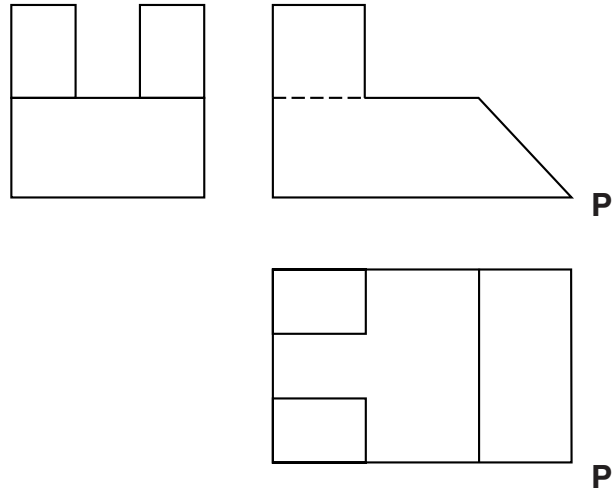

Fig. 1
- 1 Fig. 1 shows orthographic drawings of a small metal casting.